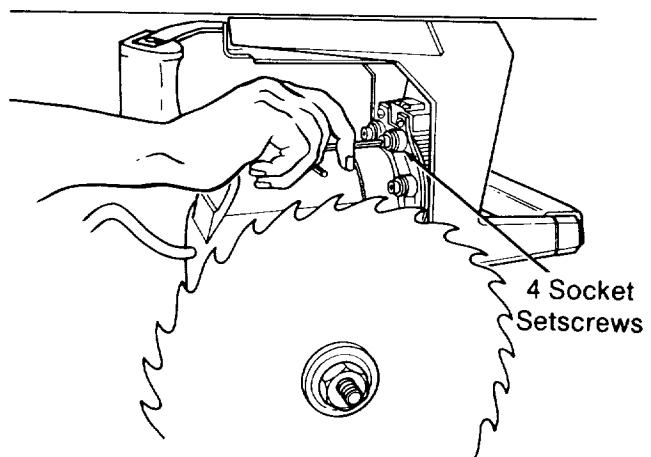

Fig. 74
9. Loosen the four screws behind the *yoke* using a 1/8 inch hex-L wrench. (Figure 74)